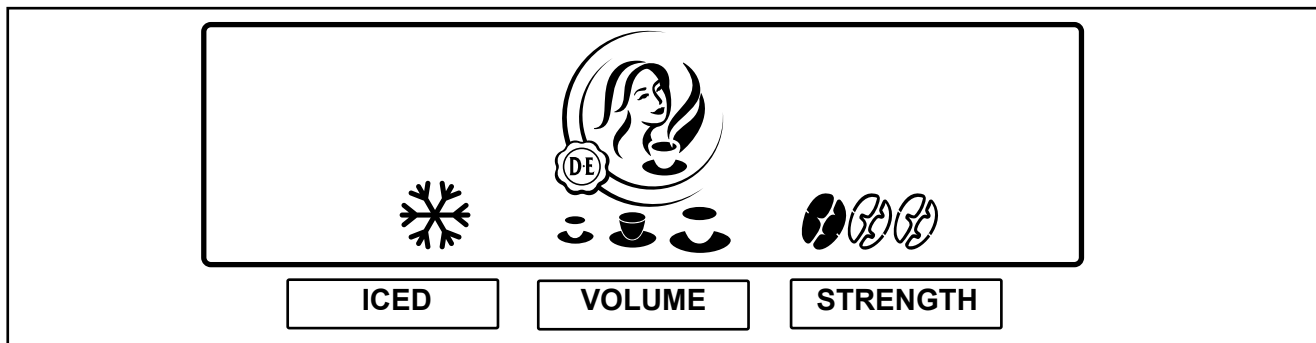

Fig. 16
3. Press the preselection button until the required drink strength is marked in black (fig. 16). The selection is cyclic - (1 bean = mild, 2 beans = normal, 3 beans = strong).